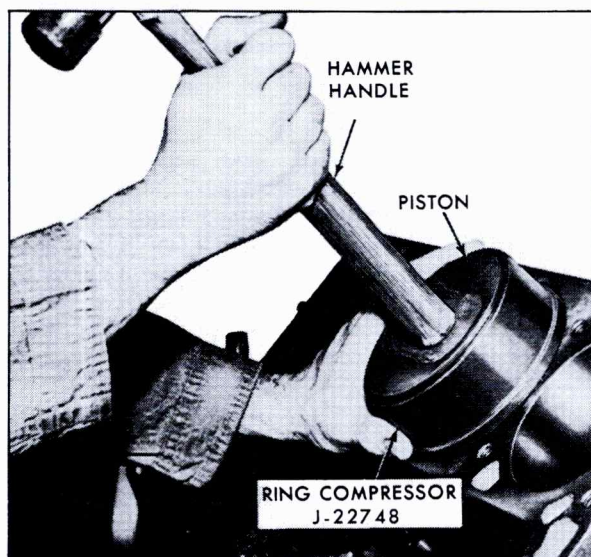

Fig. 6-131 Installing Piston in Cylinder Block
3. Using Piston Ring Compressor, J-22748, position capless rod and piston in cylinder bore with arrow in trough pointing toward front of engine (letter "R" on piston roward rear) Fig. 6-131.